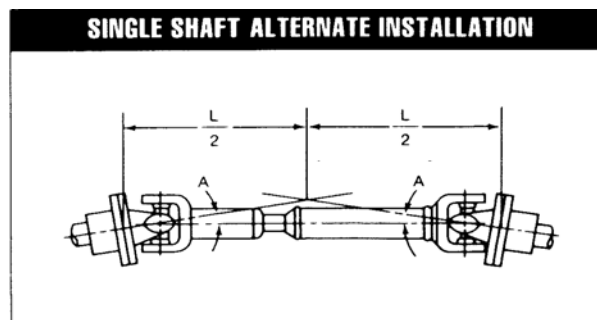

Figure 2
1.4.2 Joint angles must be equal within $\frac{1}{2}$ degree. Joints, working in pairs will vibrate if they are not working at the same angle within $\frac{1}{2}$ degree. (See Figure 2).
1.4.5 In the alternate installation (Figure 2) the centerlines of the output and input shafts must intersect at the center of the driveshaft. Consult factory for installation using this method.